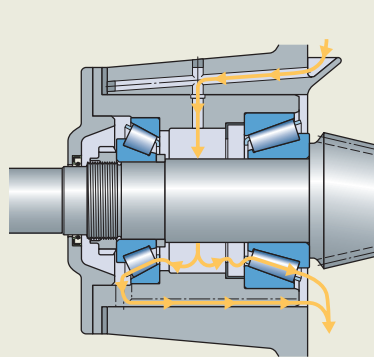

Fig. 5
- A dedicated component (ring, disc, etc.) picks up oil from an oil bath and transports it (fig. 5).